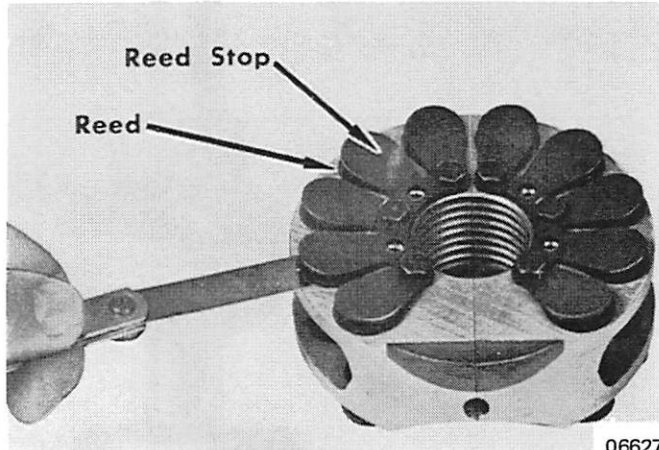

Figure 3. Measuring Reed Valve Opening - 4 and 6-Cylinder
3. Adjust reeds by setting reeds squarely over their respective openings. Install reed stops and cap screws and torque to specifications. Reeds should have "no preload". (This means that reed valves adhere to seat but may have a slight opening -- never more than .007".) (Figures 3 and 4)